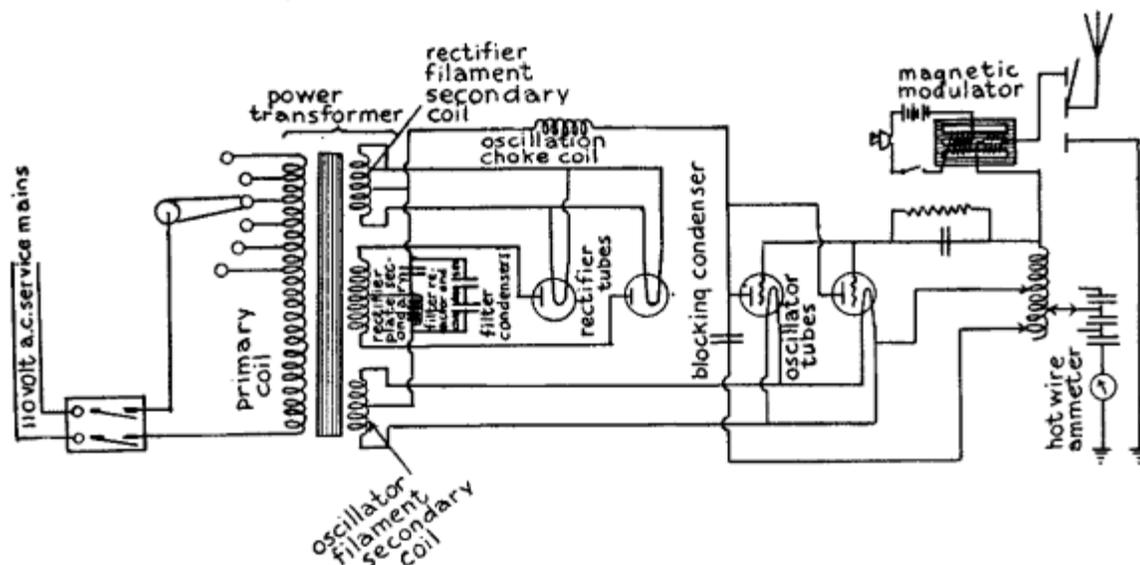

FIG. 93.—100 to 200 Mile Wireless Telephone Transmitter.
Connecting Up the Apparatus.--The wiring diagram in Fig. 93 shows how the various pieces of apparatus for this telephone transmitter are connected up. You will observe: (1) that the terminals of the power transformer secondary coil which develops 10 volts are connected to the filaments of the oscillator tubes; (2) that the terminals of the other secondary coil which develops 10 volts are connected with the filaments of the rectifier tubes; (3) that the terminals of the third secondary coil which develops 550 volts are connected with the plates of the rectifier tubes; (4) that the pair of filter condensers are connected in parallel and these are connected to the mid-taps of the two filament secondary coils; (5) that the reactance coil and the third filter condenser are connected together in series and these are shunted across the filter condensers, which are in parallel; and, finally, (6) a lead connects the mid-tap of the 550-volt secondary coil of the power transformer with the connection between the reactor and the third filter condenser.
*A 100 to 200 Mile Wireless Telephone Transmitting Set--With 110 Volt Alternating Current.--*This telephone transmitter is built up of exactly the same pieces of apparatus and connected up in precisely the same way as the one just described and shown in Fig. 93.
*Apparatus Required.--*The only differences between this and the preceding transmitter are: (1) the *magnetic modulator*, if you use one, should have an output of 3-1/2 to 5 amperes; (2) you will need two 50 watt *oscillator tubes with sockets*; (3) two 150 watt *rectifier tubes with sockets*; (4) an *aerial ammeter* that reads to 5 amperes; (5) three 1 mfd. *filter condensers* in parallel; (6) two *filter condensers of 1 mfd. capacitance* that will stand 1750 volts; and (6) a 300 milliampere *filter reactor*.
The apparatus is wired up as shown in Fig. 93.
The Operation of Microphone Modulators--The Induction Coil.--This device is really a miniature transformer, see *A* in *Fig. 86*, and its purpose is to change the 6 volt direct current that flows through the microphone into 100 volts alternating current; in turn, this is impressed on the oscillations that are surging in either (1) the grid circuit as shown at *A* in *Fig. 89*, and in *Fig. 90*, (2) the aerial wire system, as shown at *B* in *Fig. 89* and *Fig. 93*. When the current from the battery flows through the primary coil it magnetizes the soft iron core and as the microphone varies the strength of the current the high voltage alternating currents set up in the secondary coil of the induction coil are likewise varied, when they are impressed upon and modulate the oscillating currents.
The Magnetic Modulator.--This piece of apparatus is also called a *magnetic amplifier*. The iron core is formed of very thin plates, or *laminations* as they are called, and this permits high-frequency oscillations to surge in a coil wound on it. In this transformer, see *A* in *Fig. 88*, the current flowing through the microphone varies the magnetic permeability of the soft iron core by the magnetic saturation of the latter. Since the microphone current is absolutely distinct from the oscillating currents surging through the coil of the transformer a very small direct current flowing through a coil on the latter will vary or modulate very large oscillating currents surging through the former. It is shown connected in the aerial wire system at *A* in *Fig. 88*, and in *Fig. 93*.
The Operation of Wireless Telephone Transmitters with Alternating Current.--Where an initial alternating current is used for wireless telephony, the current must be rectified first and then smoothed out before passing into the oscillator tube to be converted into oscillations. Further so that the oscillations will be sustained, two oscillator tubes must be used, and, finally, in order that the oscillations may not vary in amplitude the alternating current must be first changed into direct current by a pair of rectifier vacuum tubes, as shown in *Fig. 93*. When this is done the plates will be positively charged alternately with every reversal of the current in which case there will be no break in the continuity of the oscillations set up and therefore in the waves that are sent out.